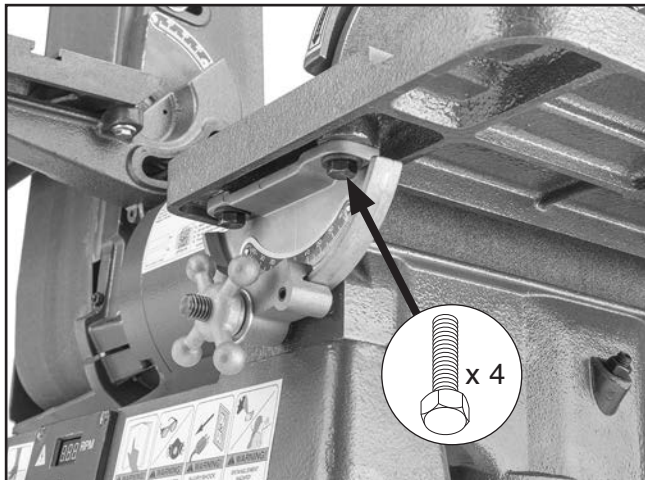

Figure 21. Location of sanding disc table trunnion hex bolts.
15. Loosen (4) sanding disc table trunnion hex bolts (see **Figure 21**), adjust table position until table is square to and within $\frac{1}{16}$ " of sanding disc, then tighten bolts.